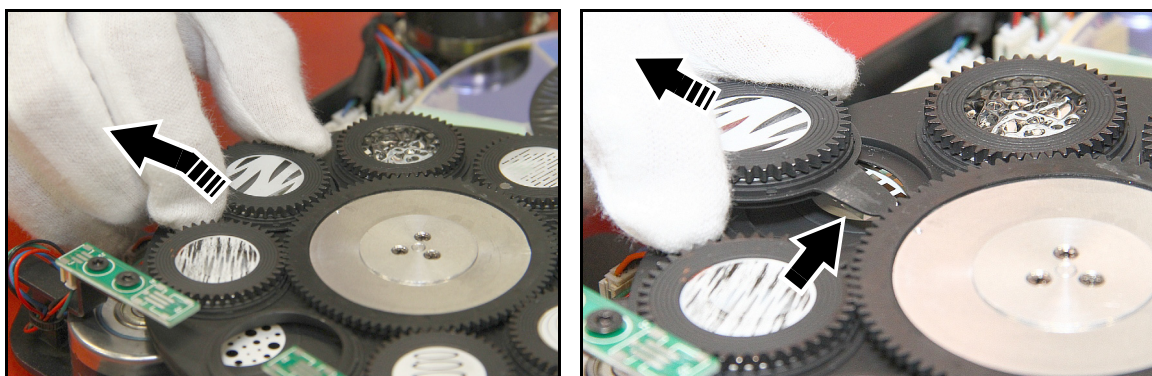

Figure 16: Removing a rotating gobo
9. See Figure 16. With the reference marks lined up, lift the outside edge of the goboholder up slightly and pull the goboholder out of the gobo wheel. Note how the goboholder tongue (arrowed) engages in a recess in the gobo drive wheel. You will need to reinstall the goboholder with the tongue in the same position in the drive wheel.